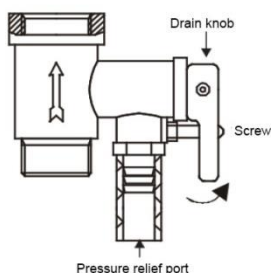

Fig 5
4. Screw the safety relief valve on the inlet nozzle, which is marked in blue and has a water flow direction arrow in such a way that the water flow coincides with the direction of the arrow on the valve body. Put the water drainage tube\* (water may appear during heating) on the pressure relief port of the safety relief valve to allow water drainage into the sewer (see Fig. 5) (the tube must be directed downwards and must not be bent).
6. To drain the internal tank, use the safety relief valve: unscrew the screw of drain knob on the safety relief valve and move the drain knob to the up position — the hot water outlet tap must be open and the cold water inlet tap must be closed (see Fig. 5). Water will start flowing from the pressure relief port of the safety relief valve.